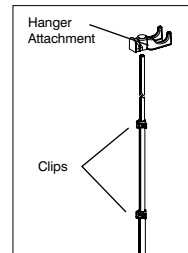

Figure 2
3. To attach the hanger attachment, align tabs in hanger attachment with grooves on pole and push down (Fig. 2).
4. Fully extend the telescopic pole. To do so, open the 3 clips on the pole and pull the pole upwards (Fig. 2). When fully extended close the clips. Make sure that the pole is securely locked into place and cannot be pushed downward.
- Open the 3 clips (Fig. 2) on the telescopic pole and glide it slowly to collapse being careful not to pinch your fingers. When it is all the way down close the 3 clips back into place.